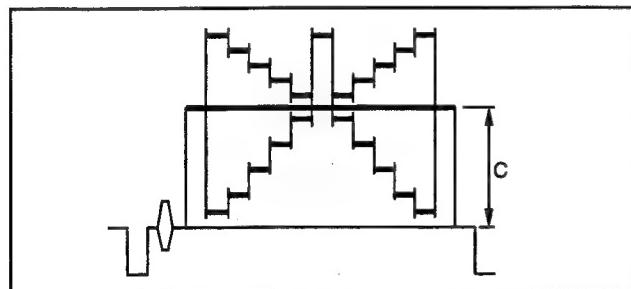

Fig.1
Higher adjustment values set higher gamma coefficient, that is, the level (C) of the gray scale become higher compared to at the standard setting value as shown in Fig.1.